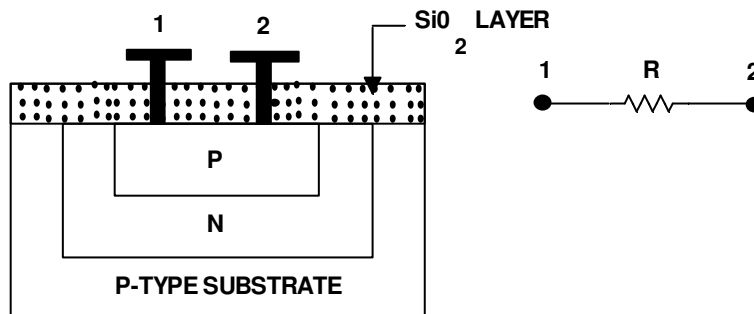

Fig. 78.8 IC Diffused Resistor
**Diffused Resistors:** In IC resistors, the resistance value can be controlled by varying the concentration of doping impurity and depth of diffusion. The range of resistor values that may be produced by the diffusion process varies from ohms to hundreds of kilo-ohms. The typical tolerance, however, may be no better than  $\pm 5\%$ , and may even be as high as  $\pm 20\%$ . On the other hand, if all the resistors are diffused at the same time, then the tolerance ratio may be good. Most resistors are formed during the base diffusion of the integrated transistor as shown in fig. 78.8. This is because it is the highest resistivity region and diffused resistors are formed simultaneously with transistors, diodes and diffused capacitors. No additional steps in the manufacturing process are necessary. For low resistance values, emitter region is used as it has much lower resistivity.